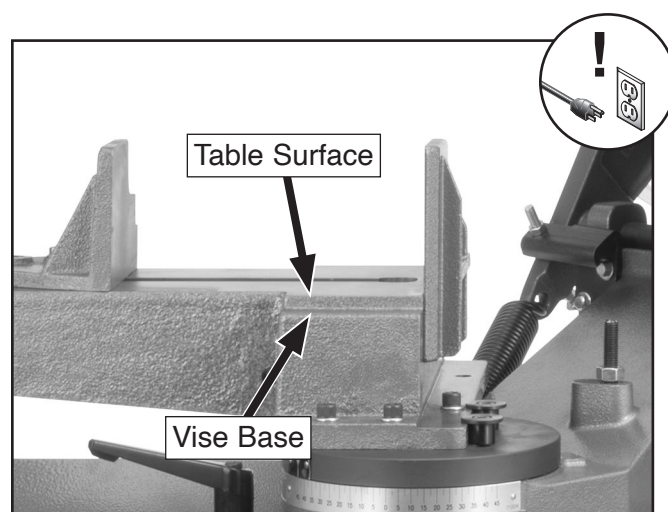

Figure 86. Blade teeth limits.
2. Lower headstock all the way. When headstock stops, blade teeth should be just below table surface, but not contacting vise base (see **Figure 86**).